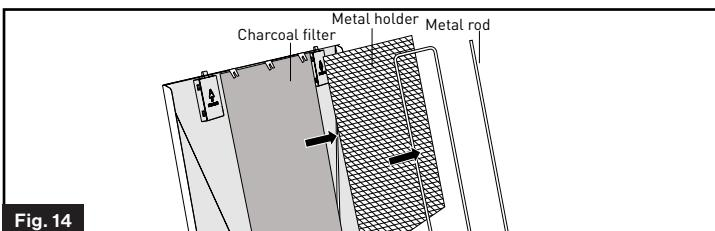

Fig. 14
4. Separate the metal rod, the metal holder and the charcoal filter from the cover. (Fig. 14)
4. Repeat steps 4~1 in 'Metal Holder' to replace the filter panel. See figure 14 for the replacement process of the filter and metal holder.